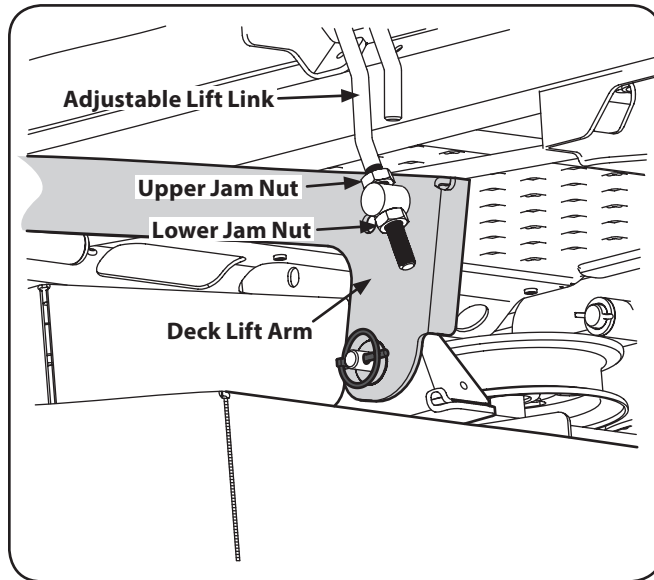

Figure 6-7
3. Loosen the lower jam nut on the adjustable lift link attached to the deck lift arm to lower the deck and tighten the upper jam nut to secure the deck in place, loosen the upper jam nut then tighten the lower jam nut to secure the deck in place. See Figure 6-7.